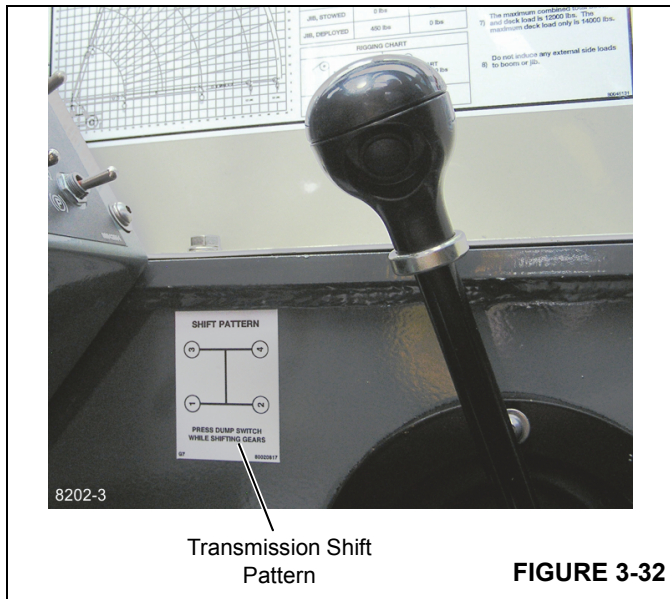

FIGURE 3-32
3. To shift to the next gear, move the shift lever to the desired gear position. See shift pattern in Figure 3-32.